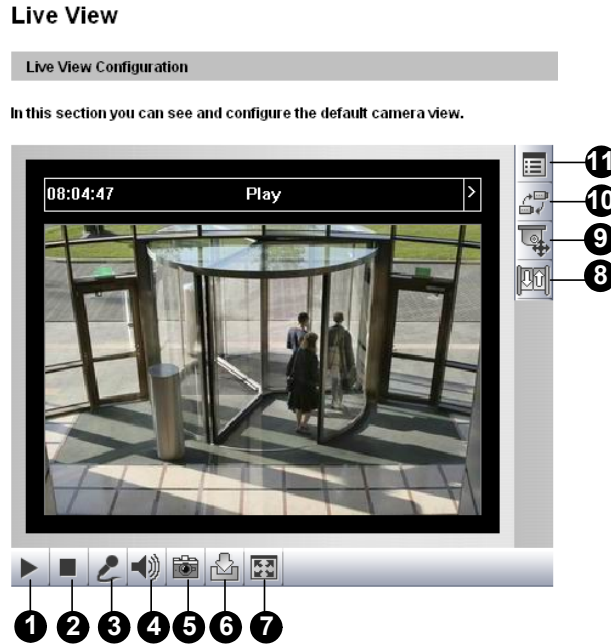

Figure 5-5
1. Click the **Snapshot** button (No. 5, Figure 5-5). The Save As dialog box appears.
1. Click the **File Save** button (No. 6, Figure 5-5). The Save As dialog box appears.
4. To stop recording, click the **Stop** button (No. 2, Figure 5-5).
- Click the **Full Screen** button (No. 7, Figure 5-5). Right-click the full screen to have the options of **PIP** and **PAP**.
To configure this function, click the **Show System Menu** button (No. 11, Figure 5-5), and select **Alarm Notify**. This dialog box appears.
You can enable the microphone and speaker for two-way audio communication and adjust the audio volume. To change audio configuration, click the **Show System Menu** button (No. 11, Figure 5-5), and select **Video and Audio Configuration**.
You can view the connection status of the central monitoring stations and upgrade firmware over the Internet. Click the **Show System Menu** button (No. 11, Figure 5-5), and select **Remote Config**. The Remote Config dialog box will appear.
To display the camera name on the image, click the **Show System Menu** button (No. 11, Figure 5-5), and select **Show Camera Name**.
To enhance the image quality of live video, click the **Show System Menu** button (No. 11, Figure 5-5), and select **Image Enhance**. This dialog box appears.
To open the PTZ control panel, click the **PTZ Control** button (No. 9, Figure 5-5) and select **PTZ Control Panel**. The features included in the **Option** button may vary depended on different PTZ devices.
- To access this feature, click the **PTZ Control** button (No. 9, Figure 5-5) and select **Visual PTZ**.